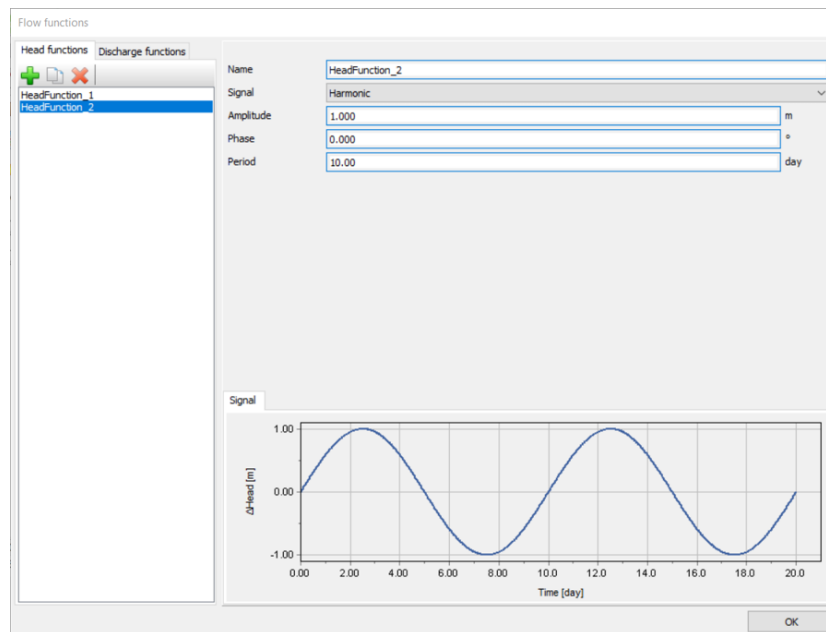

Figure 158: The flow function for the slow case
11. In the **Flow functions** window select the **Harmonic** option in the **Signal** drop-down menu. Set the amplitude to 1 m, the phase angle to 0° and the period to 10 day as shown in Figure 158 (on page 183).